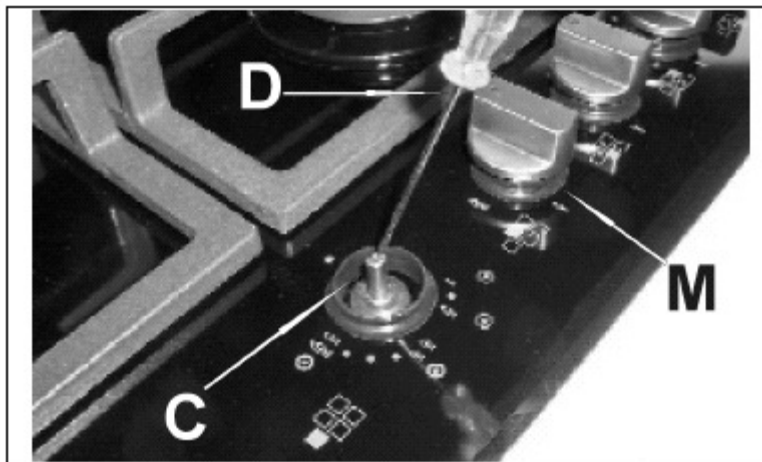

Fig. 6
2. Remove knob "M" (Fig. 6), which is simply pressed onto its support rod.
3. Insert a small screwdriver "D" into hole "C" (Fig. 6) and turn the throttle screw to the right or left until the burner flame has been adequately regulated to the "Reduced rate" position.